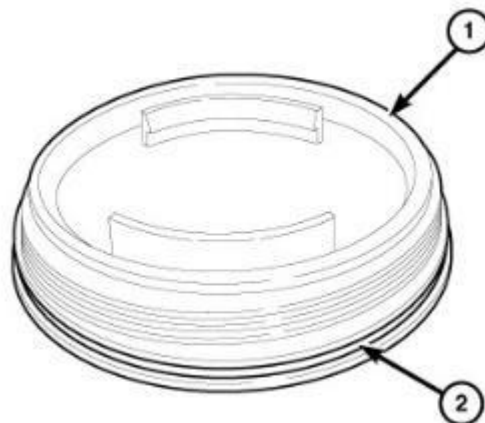

Figure 32 – Filter Cover O-ring
68. Lubricate the **NEW** O-ring seal (2) on filter covers (1) with clean diesel (Figure 32).